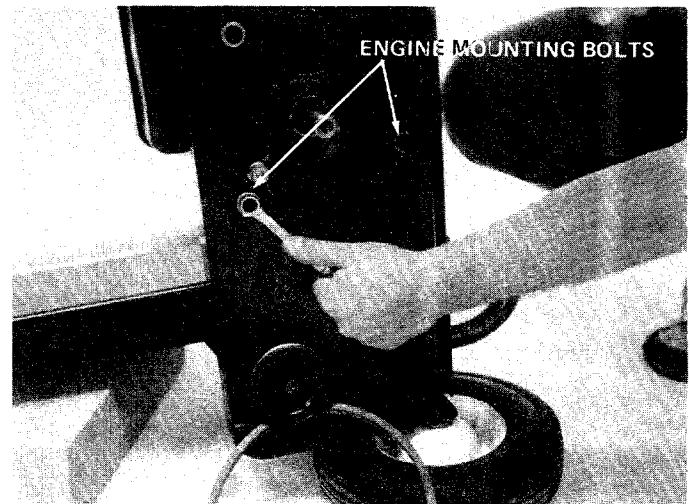

FIGURE 20
6. Loosen the three engine mounting bolts using a 1/2" wrench. See figure 20.